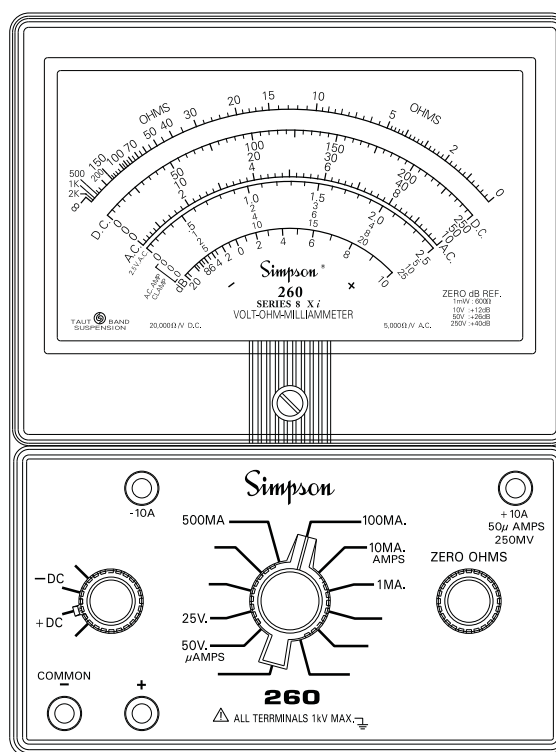

Figure 4-11. Jacks and Switch Positions for Measuring Direct Current
- Set the function switch at +DC (Figure 4-11).